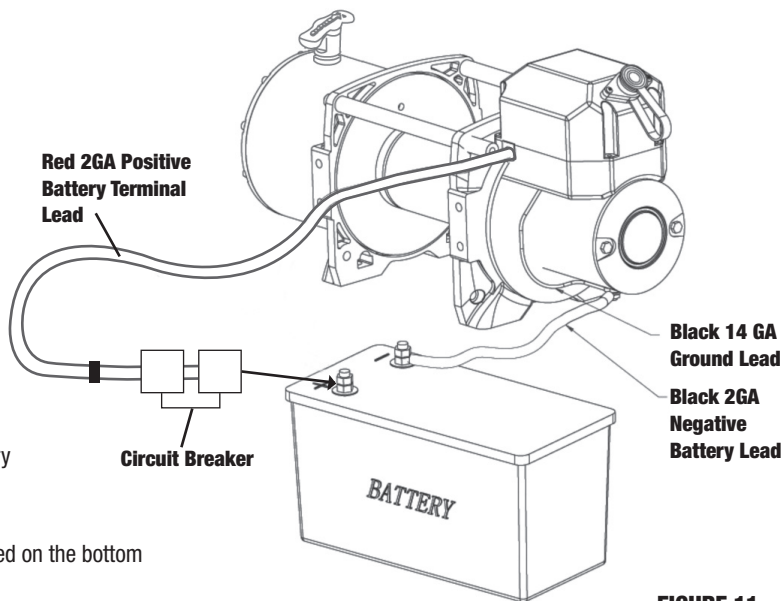

FIGURE 11
Step 2 Follow electrical connection diagram (**FIGURE 11**). Bolt the circuit breaker to the terminal end of the Red 2 GA battery lead that is factory connected to the sealed solenoid switching pack. Now connect the circuit breaker to the positive battery terminal.